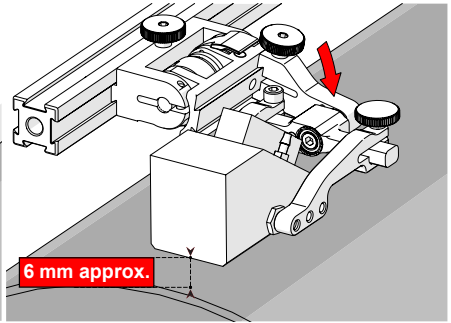

Fig. 122 - Lower to scanning surface
2. Push the probe holder yoke down toward inspection surface until the wedge is approximately 6 mm ( $\frac{1}{4}$  in) above the inspection surface (Fig. 122).